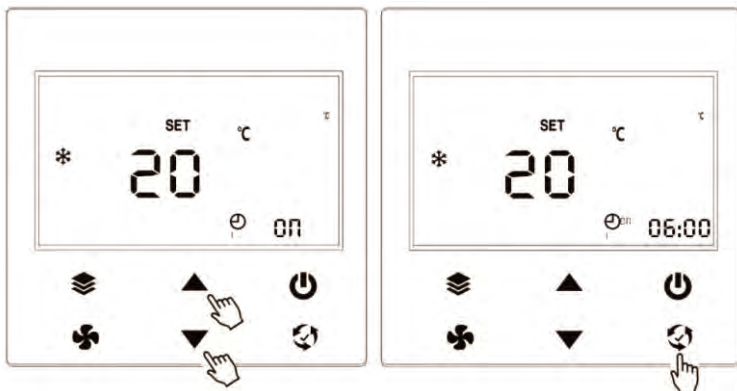
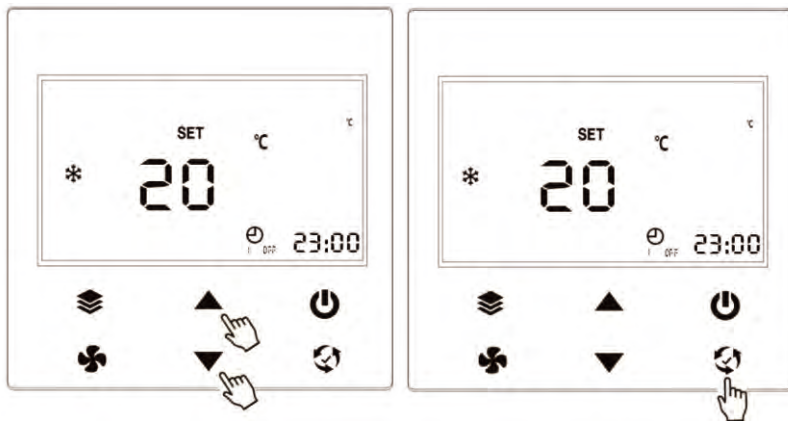

Figure 9. Set time period 1 boot timing time
Figure 10. Set time period 1 shutdown timing time
1. After selecting the timing to enable, that is, after the timing is displayed  at the time, short press the button  to enter the timing power-on time setting, as shown in the rightmost picture in Figure 10. At this time, the time is blinking.
2. Set the power-on time by short-pressing or long-pressing for 5 seconds  or  button. For example, set the power on at 6:00. When the time is adjusted to 6:00, press the button  to indicate that the time period timing power-on time setting is completed (such as Figure 9). At this time, the interface will jump to the time period 1 timer shutdown time setting, the shutdown timer time flashes, as shown in the leftmost side of Figure 10.